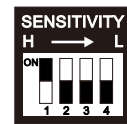

Figure 3
3. Set sensitivity ON (90%) in dip switch 1 (Figure 3).